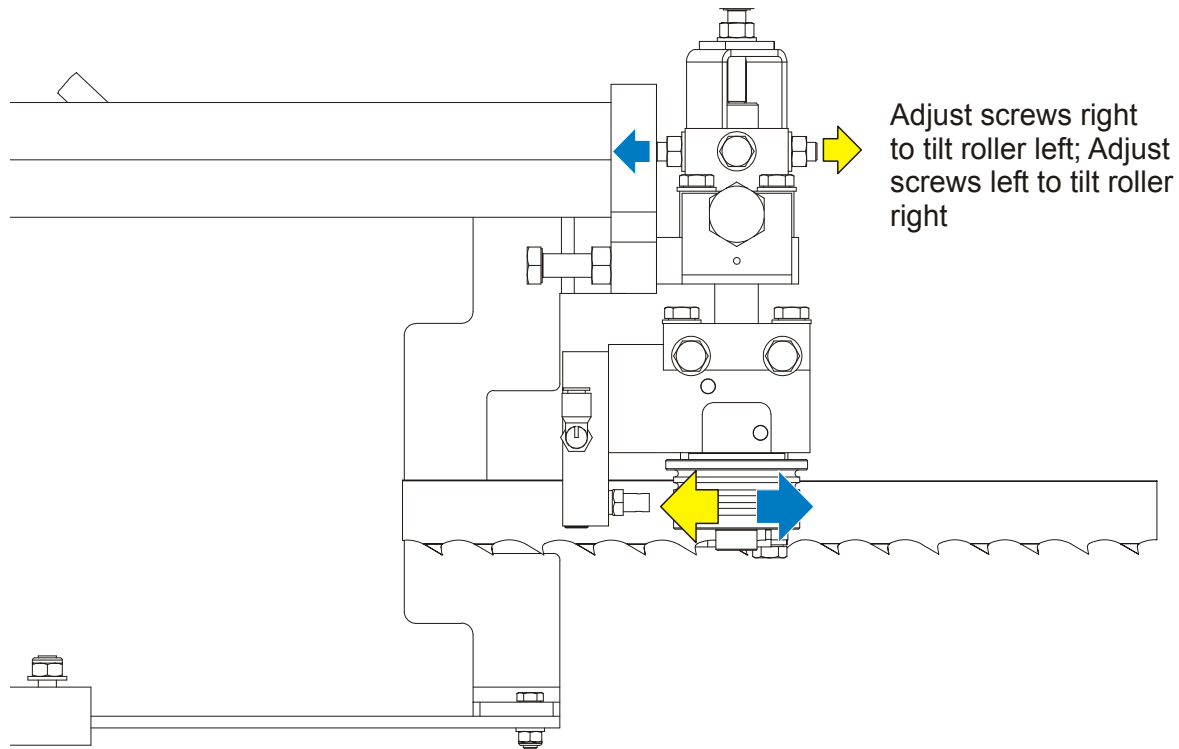

FIG. 5-36
**See Figure 5-36.** Loosen the jam nuts on the horizontal tilt adjustment screws. To tilt the roller left, loosen the right screw and tighten left screw. To tilt the roller right, loosen the left screw and tighten the right screw. Tighten the jam nuts and recheck the tilt of the blade.